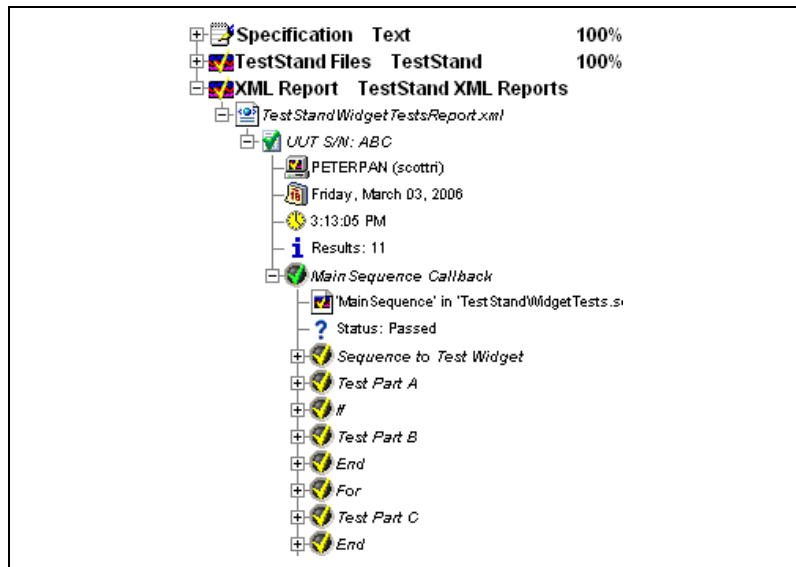

Figure 7-3. TestStand XML Report Document
11. Expand the contents of the XML Report document in the Management View as shown in Figure 7-3. Requirements Gateway displays the TestStandWidgetTestsReport.xml file under the XML Report document.